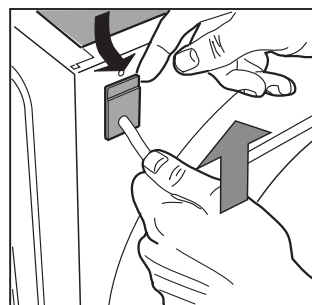

Fig. 5
4. Remove the upper part of the cord lead slightly from the back panel of the appliance, pull the power supply cable upwards and take it out [fig. 5].